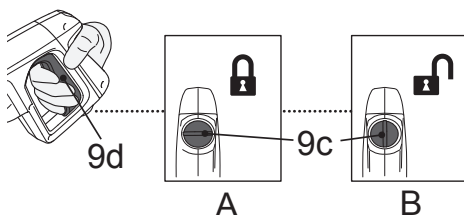

Fig. 19
1. When the trigger lock (9c) is in locked position, the spray gun trigger (9d) is disabled (Fig. 19, A).
1. When the trigger lock (9c) is in unlocked position, the spray gun trigger (9d) is enabled and ready for use (Fig. 19, B).